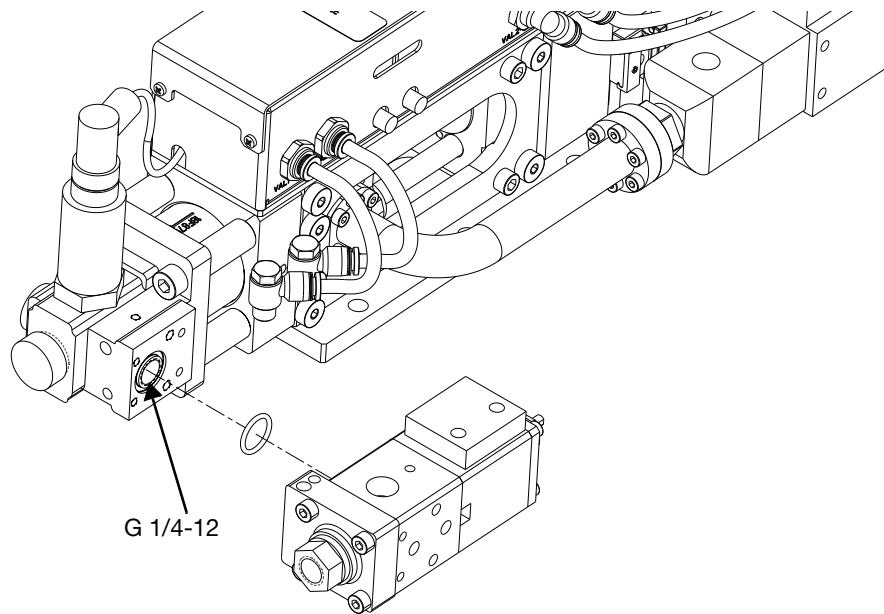

FIG. 7: Mounting Hole Dimensions for Remote Installed Dispense Valve
4. For remote installed dispense valve, refer to FIG. 7 for mounting hole dimensions.